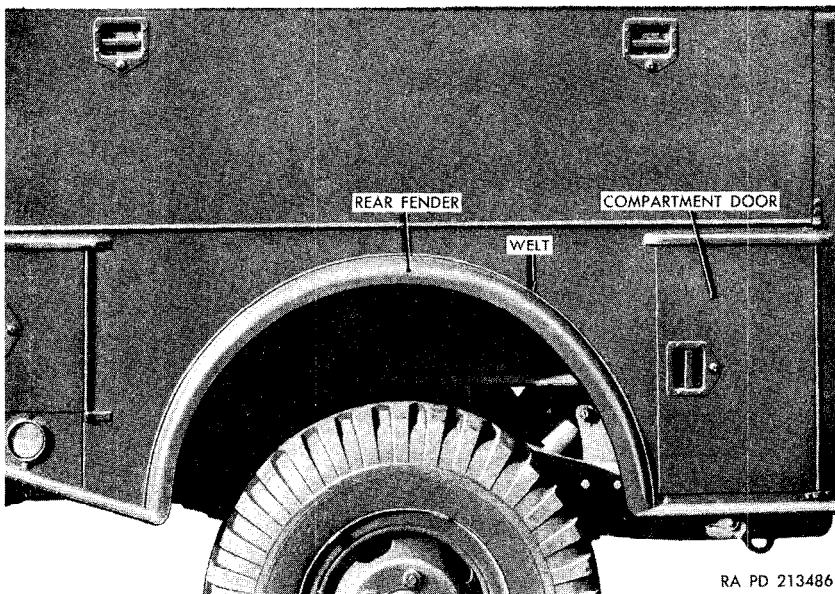

Figure 206. Rear fender (telephone maintenance truck V-41).
- (1) Remove the eight lockwasher screws that secure the fender to the wheel housing, and remove the fender and the welt.
- (2) Place the welt on the fender with the cutouts alined with the screw holes, and position the fender and welt in the wheel housing, alining the screw holes in the fender with those in the housing. Install the eight lockwasher screws fingertight.
- (3) Aline the welt so that it is flush with each end of the fender and the bead fits snugly against the body. Tighten the eight lockwasher screws.
c. Replacement (Telephone Maintenance Truck V-41) (fig. 206).
- (1) Remove the four nuts, lockwashers, and bolts that secure the rear end of the fender and two nuts, lockwashers, and bolts that secure the front end. The two nuts and lockwashers at the front end are accessible from the compartment just forward of the rear fender.
- (2) Remove the 20 screws and lockwashers that secure the fender to the wheel housing and remove the fender and the welt.
- (3) Place a new welt on the fender and position the fender in the wheel housing, alining the screw holes in the fender with those in the housing. Install twenty $\frac{1}{4}$ -inch external-teeth lockwashers and No. 14 x $\frac{1}{2}$ pan-head gimlet point sheet metal tapping screws.